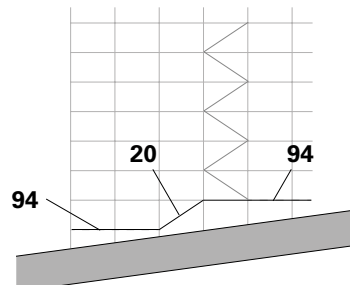

Fig. B1.02
On sloping ground or in the event of changes in height, adjust the scaffold using Base Compensation EVA 50 (13) or EVA 100 (14) to accommodate the terrain (see Fig. B1.02, next page).